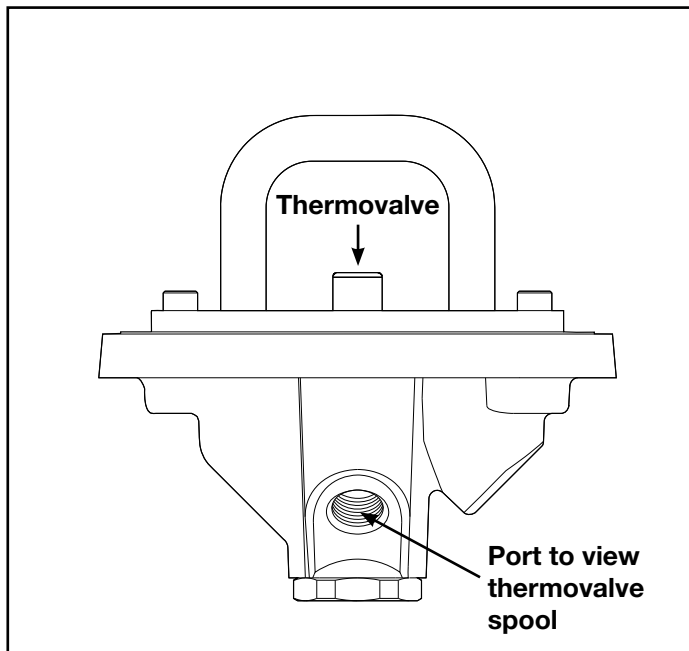

Figure 9
Step 4: While looking into the fluid port of the bottom plate (see Figure 9) flow cold water over the thermovalve for 30 seconds, then run hot water over the thermovalve and determine if the thermovalve spool is opening and closing.